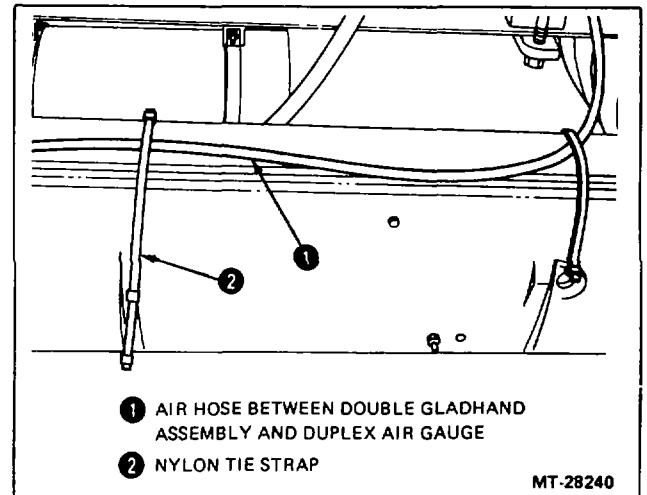

Figure 33 - Gauge Test Hose Routing
- d. Secure the air hose to the vehicle so that it will not snag when the vehicle is turned (Figure 33).